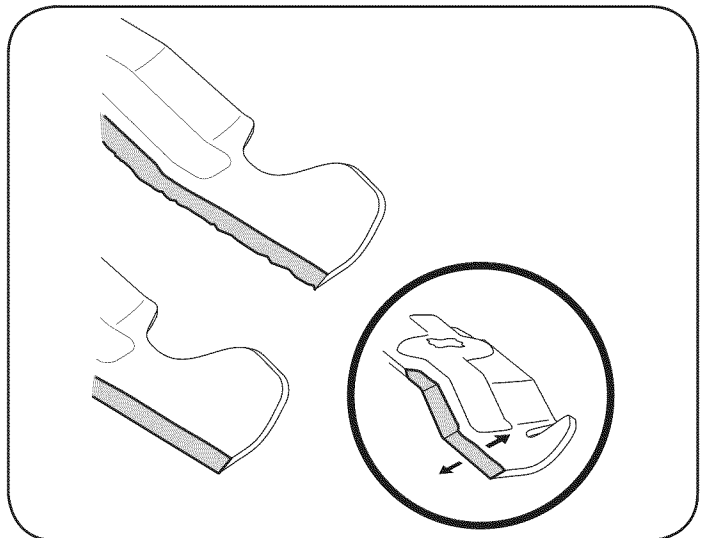

Figure 31
4. To properly sharpen the cutting blades, remove equal amounts of metal from both ends of the blades along the cutting edges, parallel to the trailing edge, at a 25°- to 30° angle. Always grind each cutting blade edge equally to maintain proper blade balance. See Figure 31.